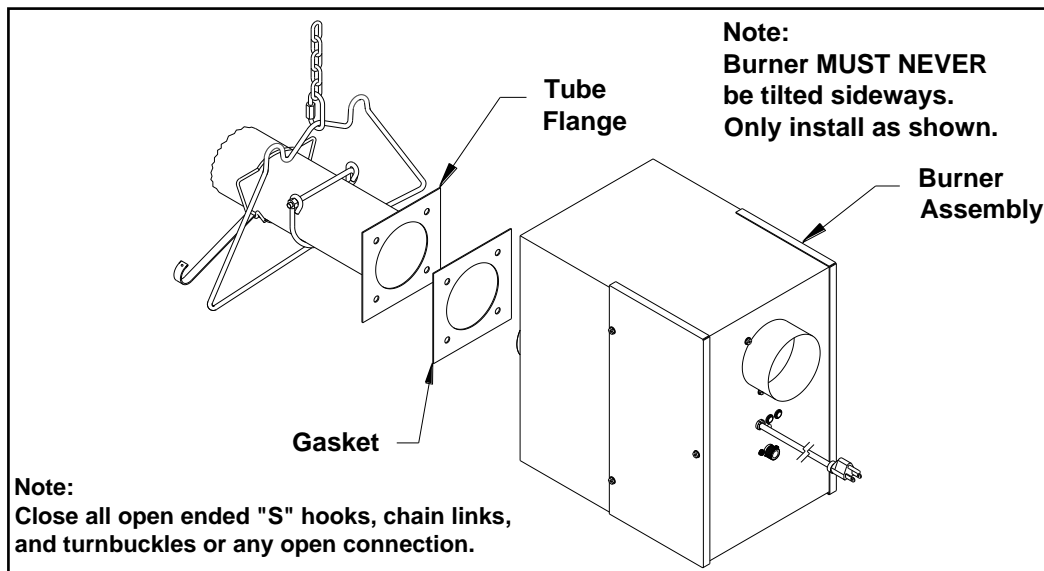

Figure 11: Burner Gasket Installation
- Locate the burner gasket provided, bolt the burner in place on the tube flange with provided hardware. **Burner must never be installed in a tilted position.** The sense electrode of the burner cup should be in the 12 o'clock position (Figure 11).